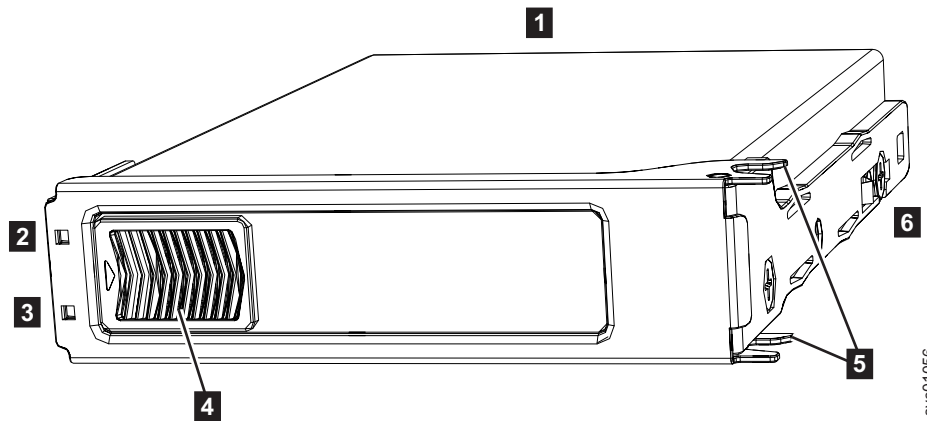

Figure 61. Drive assembly
The 2076-92F expansion enclosure supports 92 drives. Figure 61 shows an example of a drive assembly.
**Note:** When a drive is faulty, the amber fault indicator is lit ( **3** in Figure 61 on page 205). Do not replace a drive unless the drive fault indicator is on or you are instructed to do so by a fix procedure. When lit, the green indicator shows that activity is occurring on the drive.